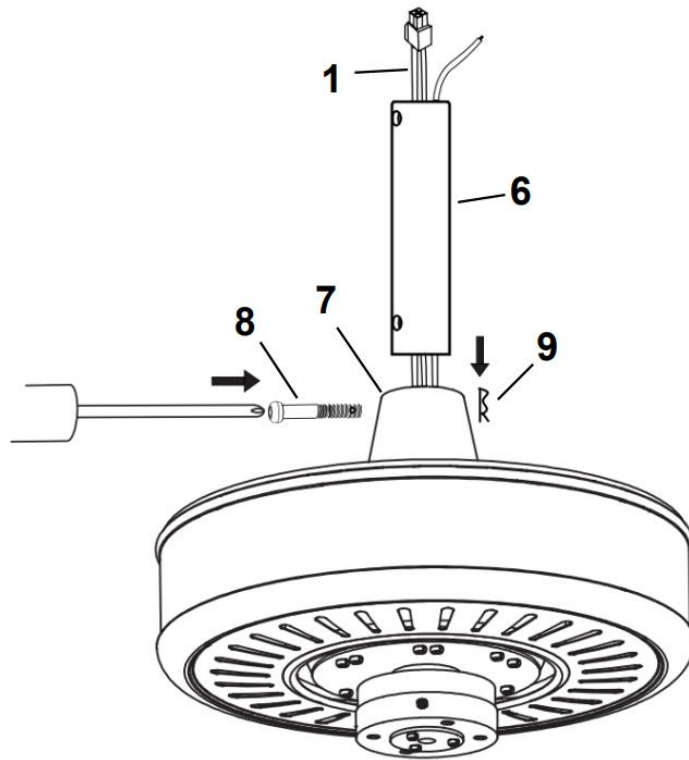

Fig. 4.3
3. Carefully feed the fan wires (1) up through the down rod (6). (Fig. 4.3)
4. Assemble the down rod (6) into the down rod coupling housing (7), by inserting and lining up the down rod coupling housing holes with the down rod holes and insert the hitch pin (8) and secure with the lock clip (9). (Fig. 4.3)